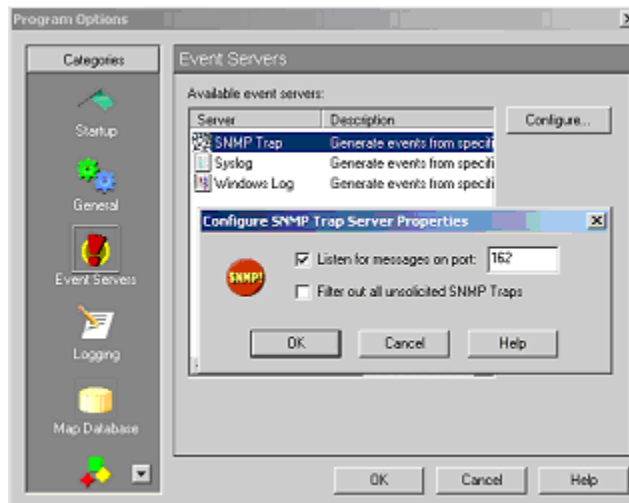

Figure 9 Configure SNMP Trap Server Properties
- 2.4. Press the configure button to open configure SNMP Trap server properties dialog box shown in Figure 9.